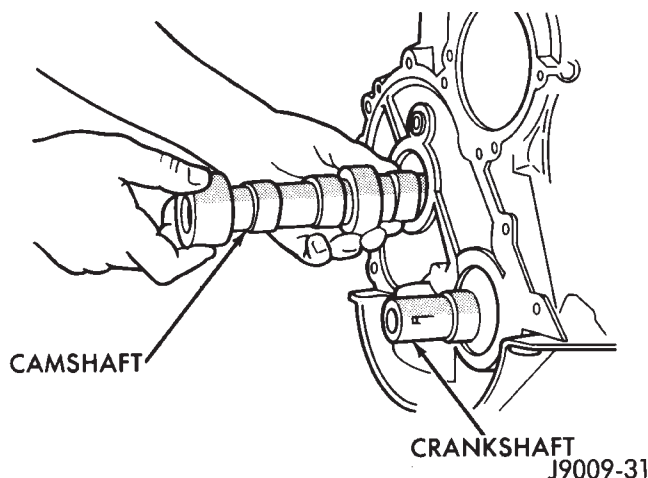
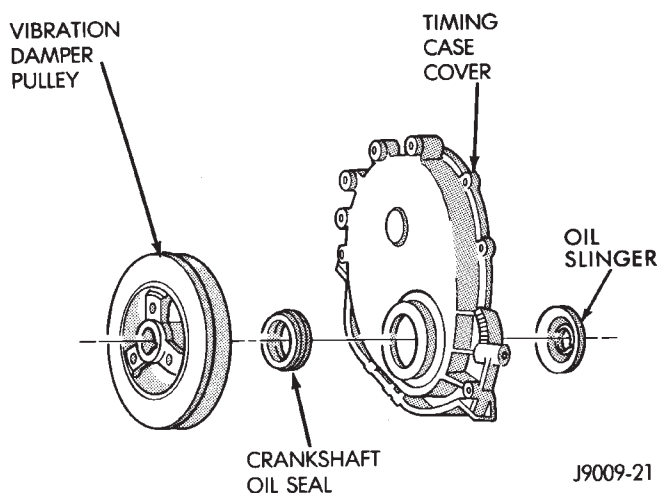

Fig. 44 Camshaft
Fig. 45 Timing Case Cover Components
- (6) Remove the distributor and ignition wires.
- (7) Remove the engine cylinder head cover.
- (8) Remove the rocker arms, bridges and pivots.
- (9) Remove the push rods.
- (10) Remove the engine cylinder head and gasket.
- (11) Remove the hydraulic valve tappets from the engine cylinder block.
- (12) Remove the vibration damper.
- (13) Remove the timing case cover.
- (14) Remove the timing chain and sprockets.
- (15) Remove the front bumper and/or grille, as required.
- (16) Remove the camshaft (Fig. 44).
(6) Lubricate the camshaft with Mopar Engine Oil Supplement, or equivalent.
(7) Carefully install the camshaft to prevent damage to the camshaft bearings (Fig. 44).
(8) Install the timing chain, crankshaft sprocket and camshaft sprocket with the timing marks aligned.
(9) Install the camshaft sprocket retaining preload bolt. Tighten the bolt to 108 N·m (80 ft. lbs.) torque.
(10) Lubricate the tension spring, the thrust pin and the pin bore in the preload bolt with Mopar Engine Oil Supplement, or equivalent. Install the spring and thrust pin in the preload bolt head.
(11) Install the timing case cover with a replacement oil seal (Fig. 45). Refer to Timing Case Cover Installation.
(12) Install the vibration damper (Fig. 45).